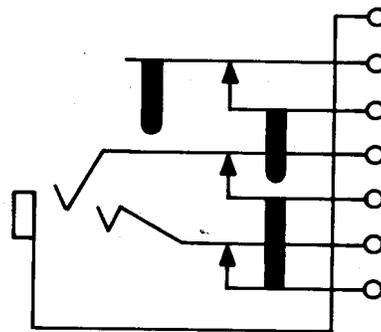

Fig. 19—242-Type Jack
2.19 242A, C, AM, and CM: These single-mounted jacks (Fig. 19) are used with 150, 184, 213, 262, 310, 320, 331, 338, and 349 plugs. These jacks are heavily insulated. The solder-type terminals are arranged to accommodate two No. 19B and S gauge wires. These jacks are arranged for use with a 310 or similar-type plug and mounted with the springs in a vertical plane.